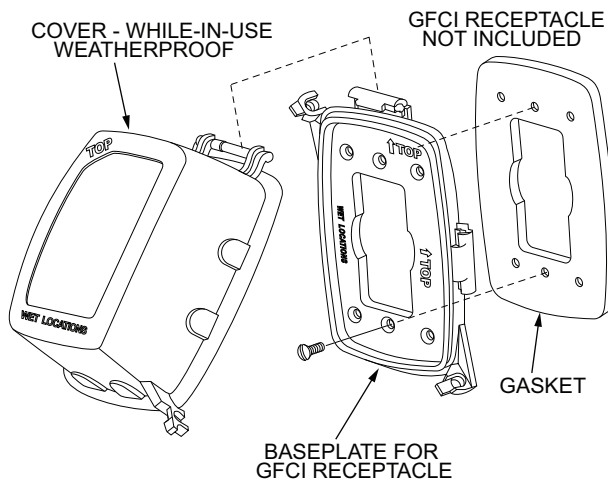

Fig. 26 — Weatherproof Cover Installation
- Mount the weatherproof cover to the backing plate as shown in Fig. 26.